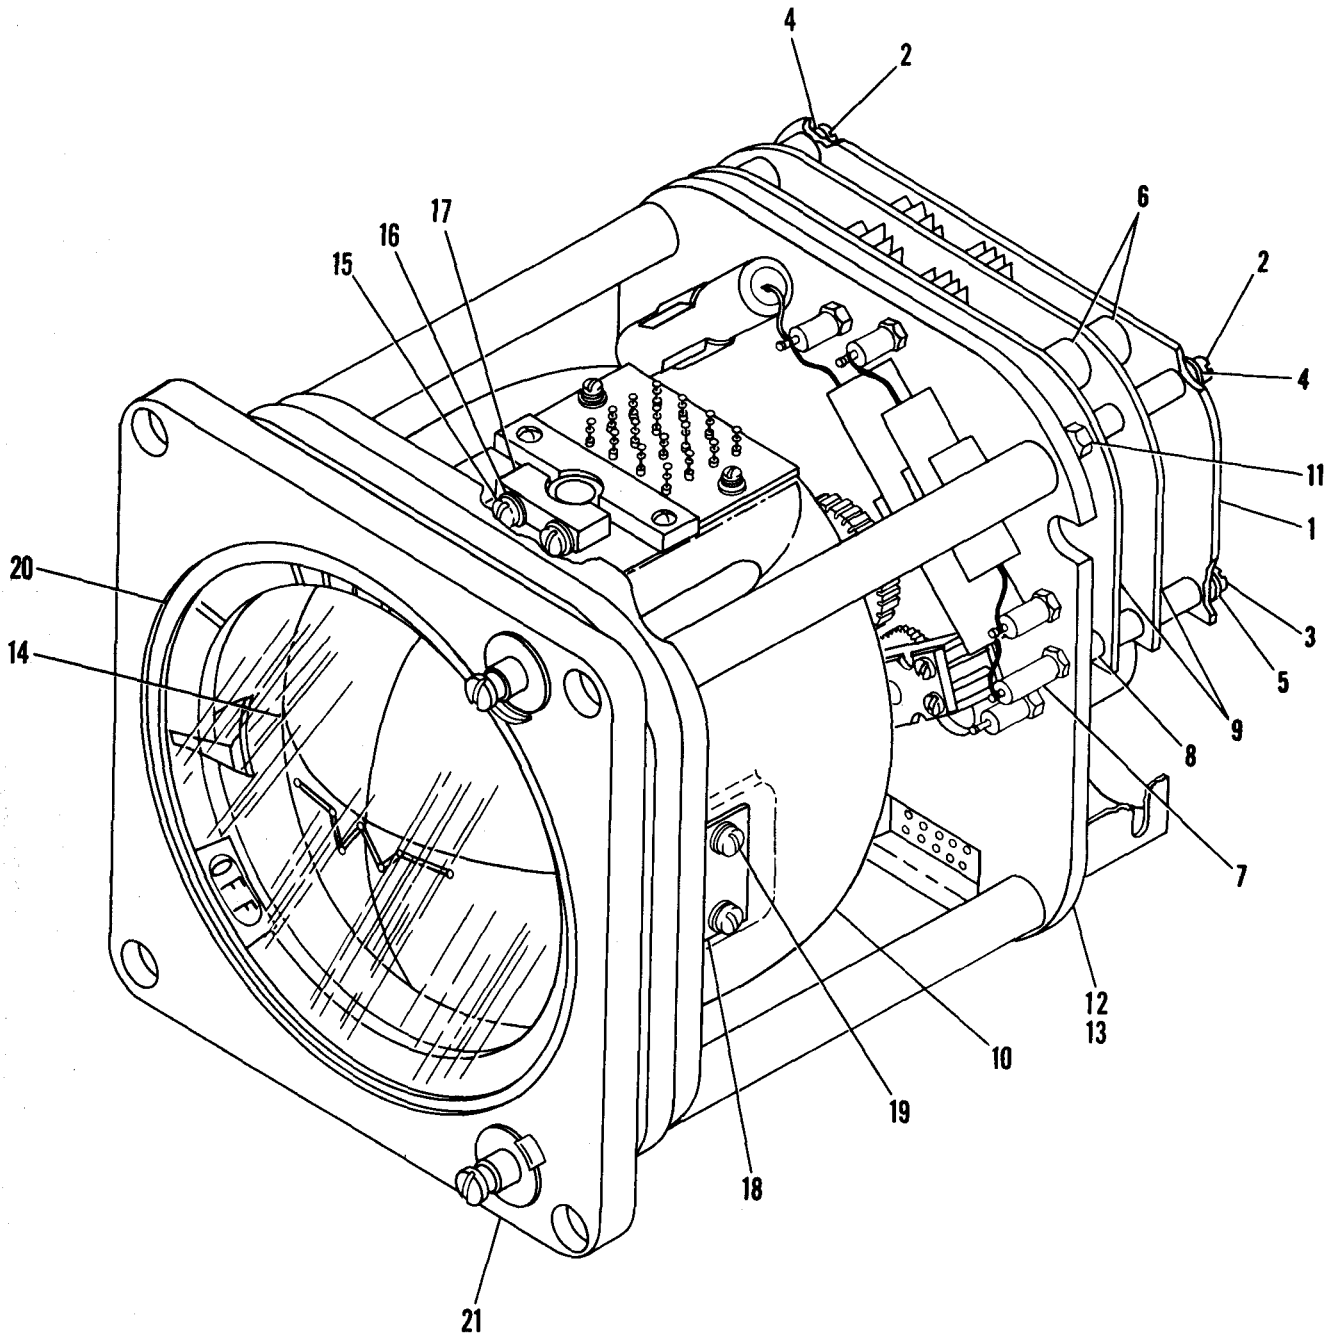

Figure 2-2. Indicator Subassembly.
- (1) Remove four screws (2 and 3, fig. 2-2), eight washers (4 and 5), eight sleeve spacers (6), two terminal studs (7), and two posts (8), and remove the electronic components assembly (1) and electronic control amplifier (9).
assembly (14, fig. 2-2), exerting care not to pull on wires connected from assembly to terminal board (40, fig. 2-5).